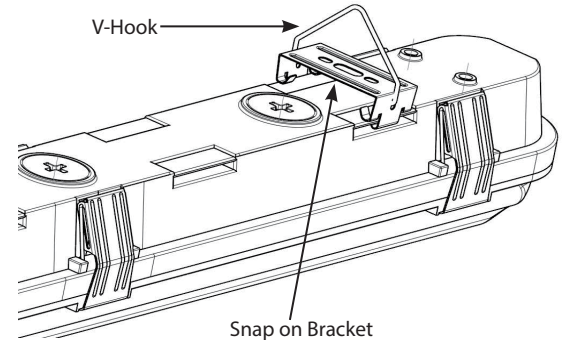

Fig: 4
3. **V-Hooks** (2 pcs for 2ft, 4ft and 3 pcs for 8ft) are provided for chain mounting. Loop **V-Hooks** through **Snap on Bracket** at back of **Housing** as shown in Fig. 4.
5. Fixture mounting height and spacing should be determined by application requirements. Use chain suitable to support four (4) times the weight of the fixture.